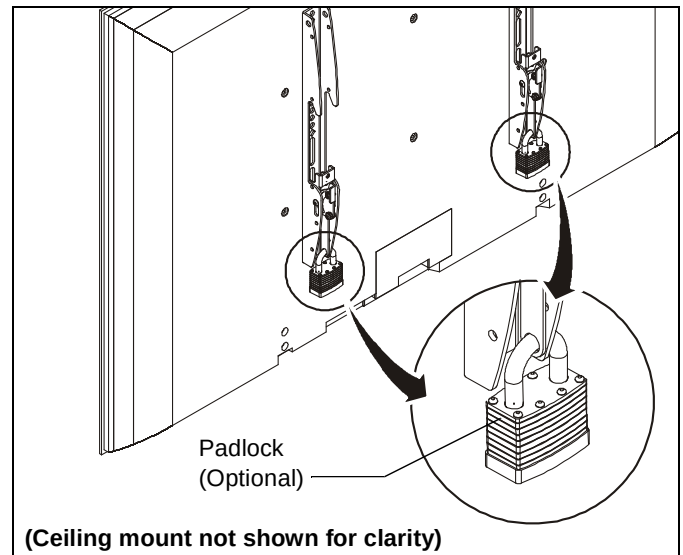

Figure 13
- OPTIONAL:** Add padlock (not included) to each interface bracket to lock display to ceiling mount. (See Figure 13)